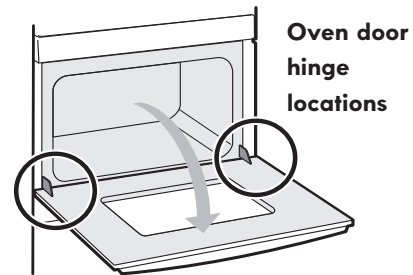

Figure 7: Door hinge location
1. Open oven door completely, horizontal with floor (See Figure 7).
3. Fully open the oven door, horizontal with floor (See Figure 7).